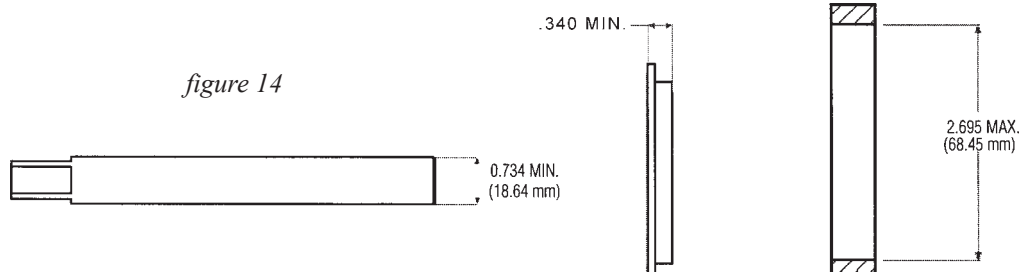

figure 14
2. Check for cracks or excessive wear on the shaft (item 5), impeller thrust ring (item 3A) and rear sealing ring (item 4C). Replace if cracked or excessively worn (see figure 14).
3. Check for signs of deformation or melting in the shaft support (item 2) and the barrier liner where the pump shaft is positioned. Dry running the pump during its initial start-up or operation can cause heat-related damage to these components.
5. Locate the impeller vanes (impeller is item 3). Make certain that there are no obstructions. If there is an obstruction in any of the flow paths, then an imbalance may cause excessive wear on the pump shaft and impeller bushings.